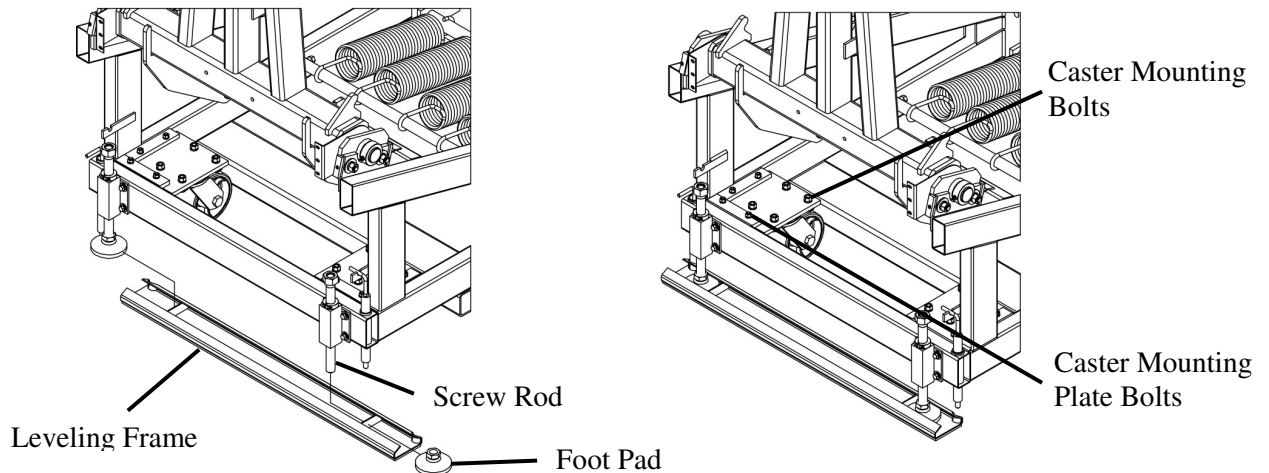

Figure 1
4. Install the leveling frame assembly onto the leveling foot pads. Refer to Figure 1